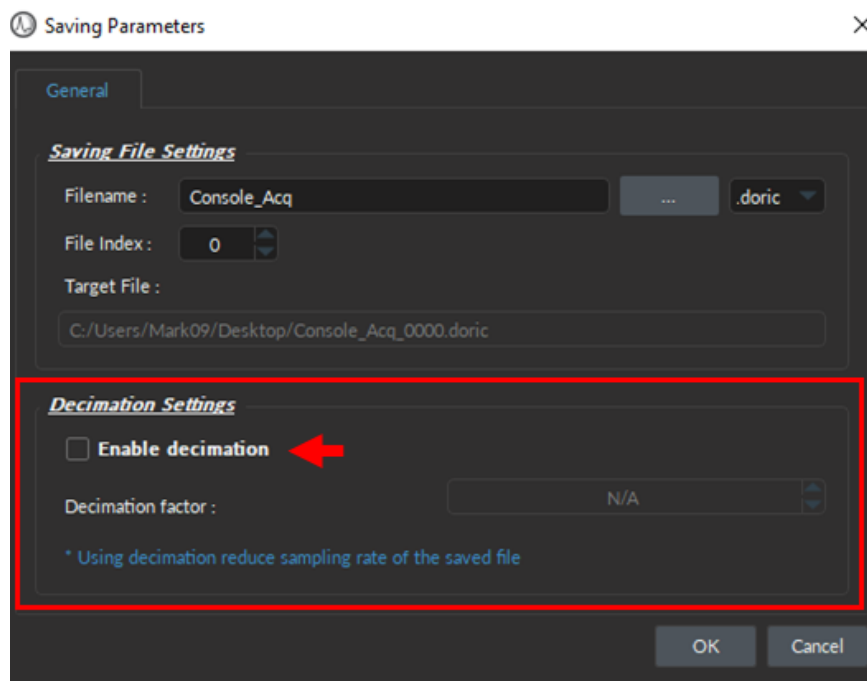

Figure 6.36: Enable/Disable the decimation factor that reduces the Sampling Rate of the saved files
- **Note 1:** The saved file **effective sampling rate** is set to 5x the lowpass filter frequency, using a decimation factor (which can be disabled in Saving Options, see Fig. 6.36).